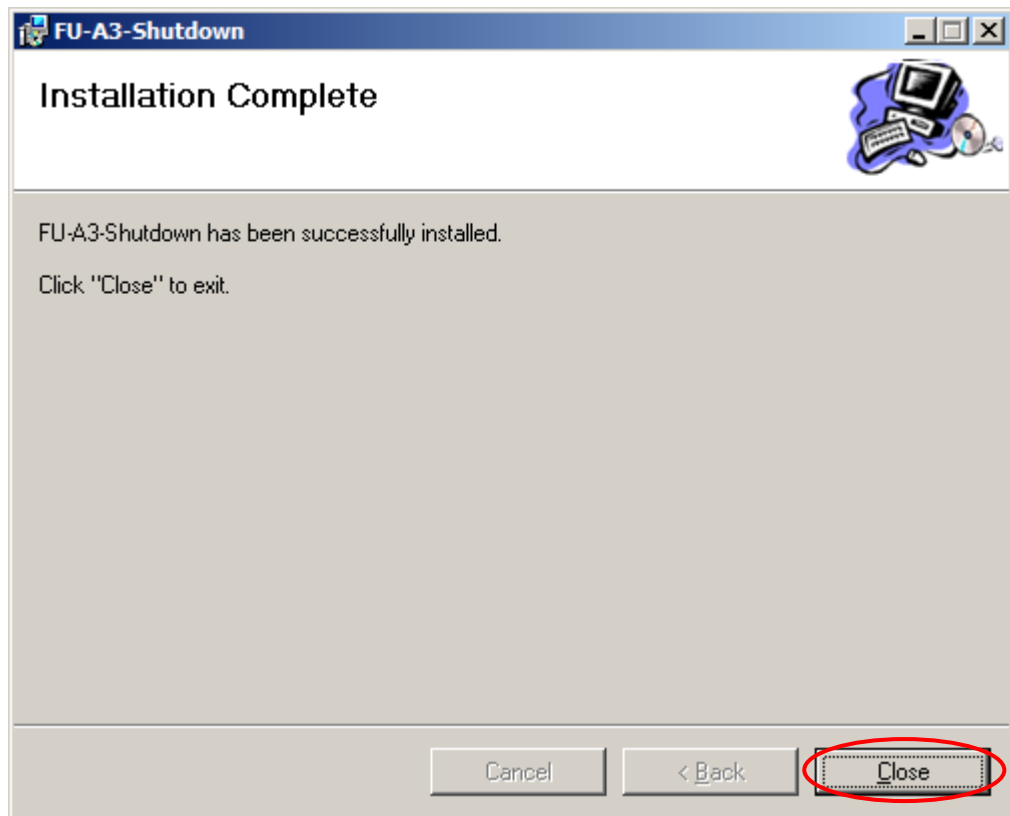

Figure 7 FU-α3-Shutdown screen
6. The input screen of the license key is displayed as shown in Figure 7.